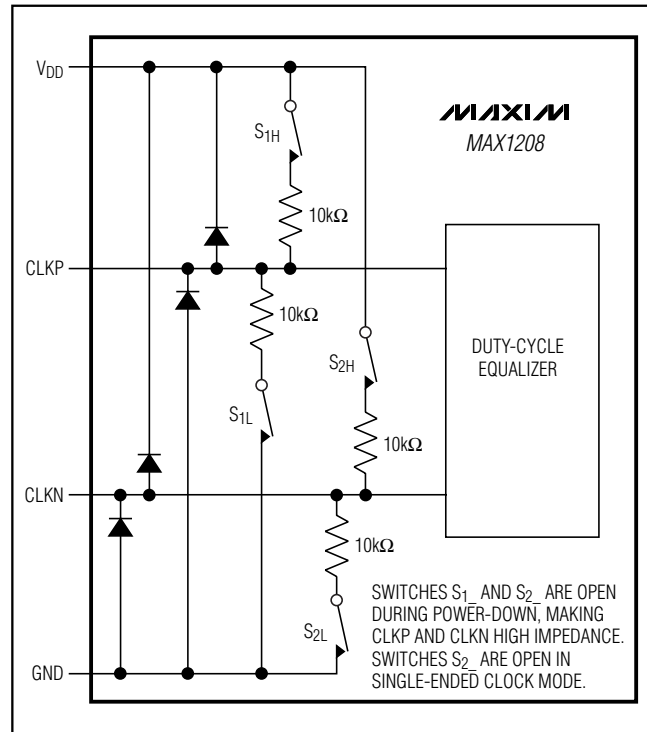

Figure 5. Simplified Clock Input Circuit
CLKP and CLKN are high impedance when the MAX1208 is powered down (Figure 5).
- CLKP and CLKN go high impedance (Figure 5).